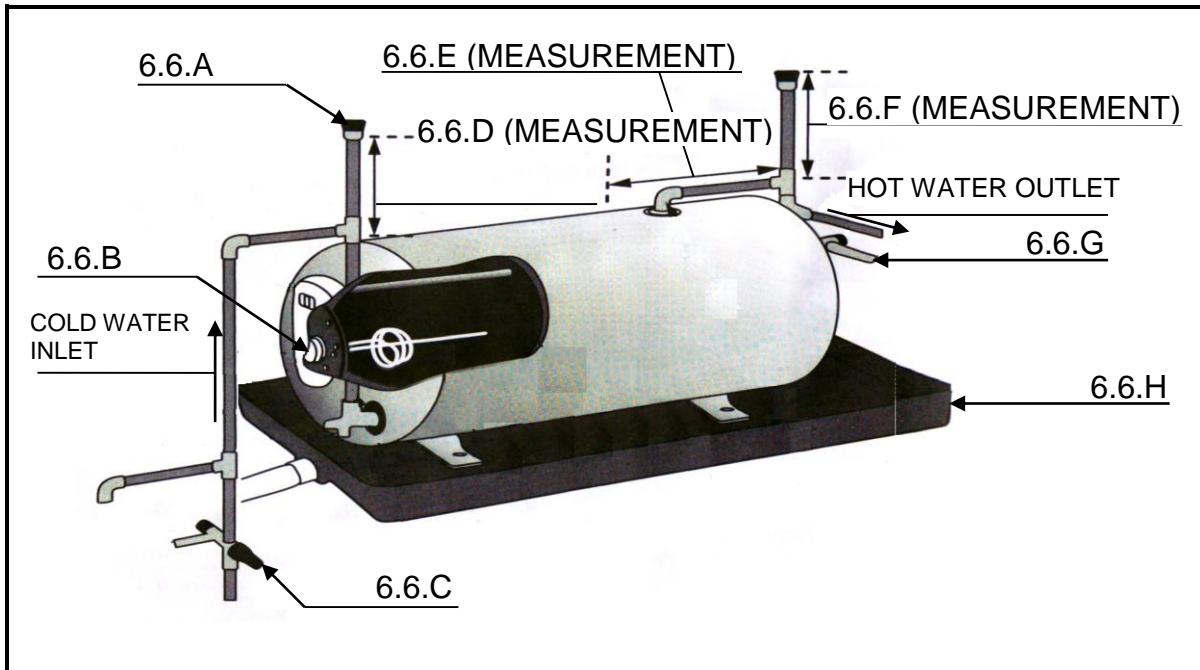

FIGURE 6.6
6.6 Answer the following questions with regard to the geyser in FIGURE 6.6.